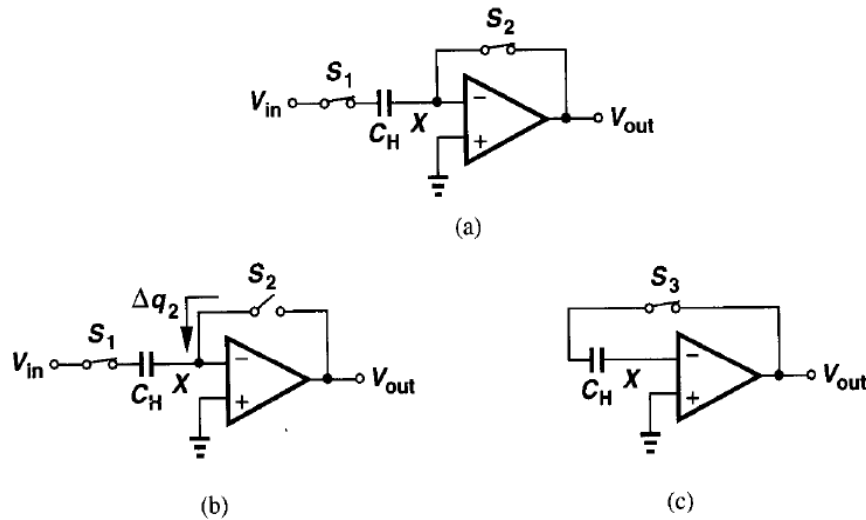

Figure 12.31 Operation of the unity-gain sampler in slow motion.
- Fig. 12.31 shows "slow motion"; S_2 injects Δq_2 onto C_H , producing an error $\Delta q_2 / C_H$, which is quite independent (The body effect makes V_{TH} a function of V_{in}) of the input level since node X is at virtual ground. **Only an offset** (rather than gain error or nonlinearity is produced)